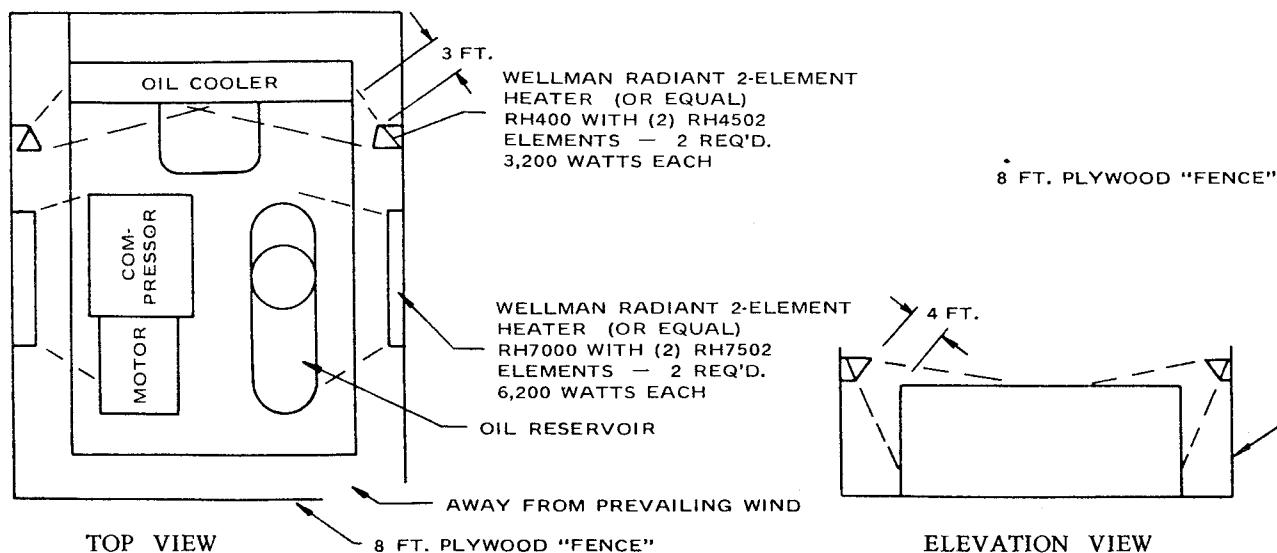

FIGURE 3-2.
3. Some means of providing heat to oil reservoir and cooler during shutdown should be provided. There are various methods to accomplish this, but since openings are not provided for sump heaters, the use of radiant heaters is recommended. The heaters should be sized to provide at least a -10° F environment for the coolers, motor and sump. Figure 3-2 shows how these might be located in a typical installation and sizes required.